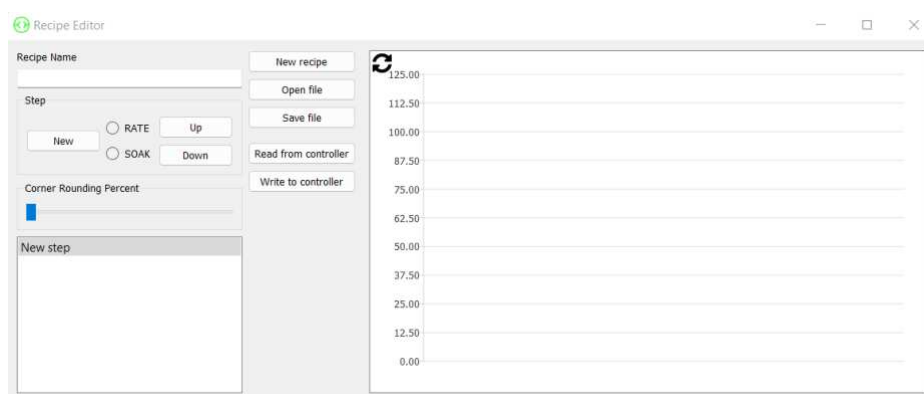
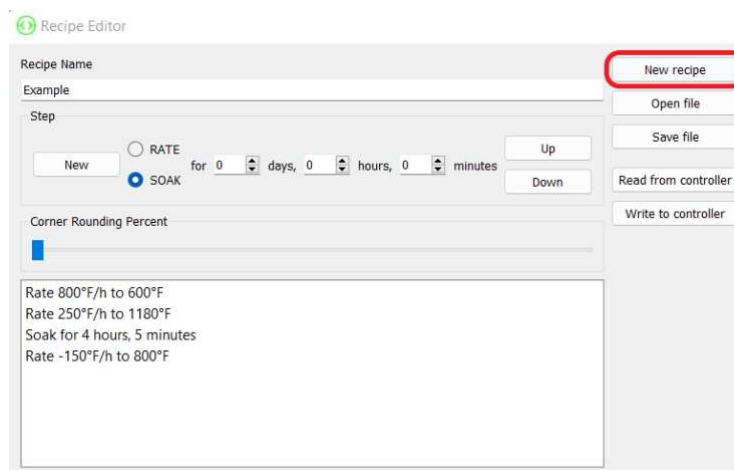

Figure 70: The Recipe Editor - New Recipe
Figure 77: Recipe Editor – ‘New Recipe’ Button
1. Open the 'Recipe Editor', it should appear empty as it does in Figure 70 below.
If you have additional recipes to create, you can now press the 'New recipe' button – highlighted in Figure 77 on the next page – to clear all fields in the 'Recipe Editor' window and return it to how it was in Figure 70.